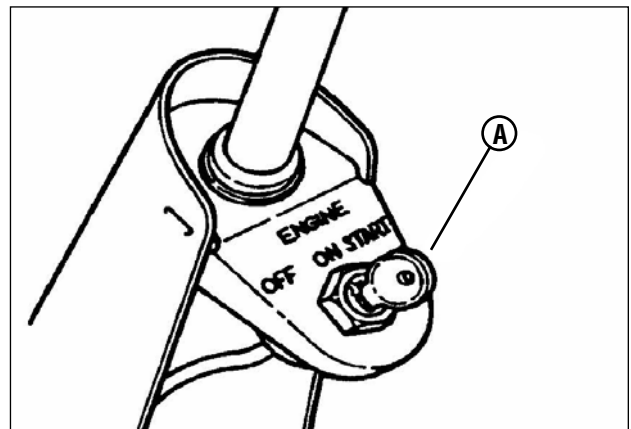

Figure 7: Ignition key
5. Turn the ignition key (**A, Figure 7**) to the “START” position until the engine starts.